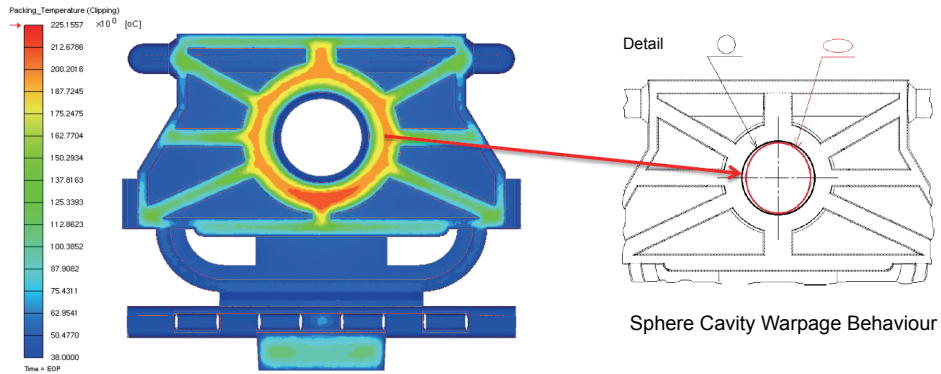

Fig.1 Warpage at the central hole area
- Large deformation found in the central hollow area, which is critical to the assembly process (Fig. 1)